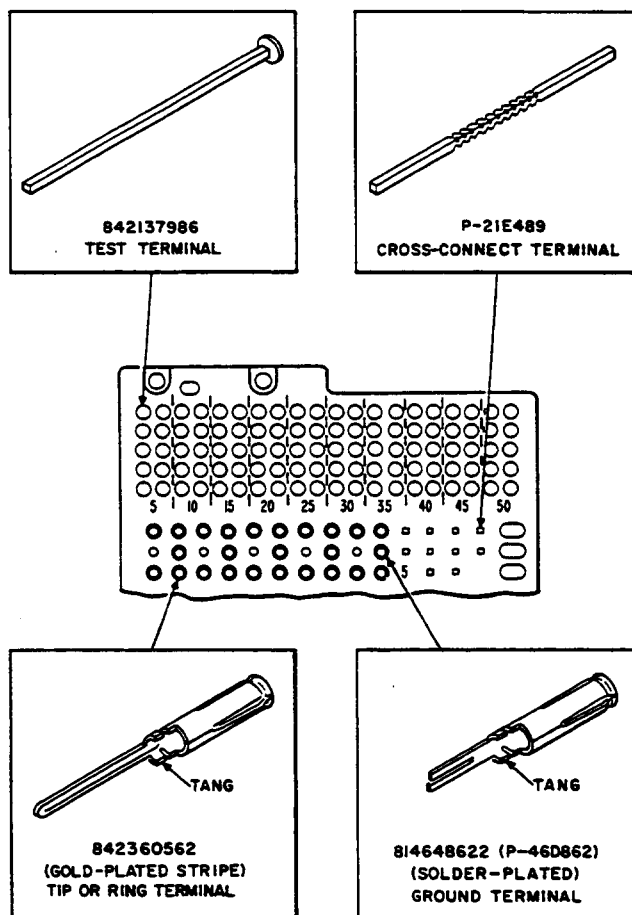

Figure 8—303-Type Connector — Replacement Terminals
4.07 The 840212476 terminal (solder-plated) and the 841634207 terminal (gold-plated) have been rated DA (Discontinued Availability) on all 303-type connectors and replaced with the 842360562 terminal (Figure 8) which has a gold-plated stripe inside the socket position.
- (1) On the wiring side of the connector, tag and remove the leads from the terminal to be replaced.
- (2) Using the B long-nose pliers, close the tangs on the terminal or break the terminal flush with the back side of the connector panel.
- (3) Remove the terminal from the front side of the connector panel.
4.09 To replace the 842360562 tip or ring terminal (Figure 8), proceed as follows:
4.10 To remove the 814648622 (P-46D862) ground terminal (Figure 8), proceed as follows:
4.12 To remove the 842137986 test terminal (Figure 8), proceed as follows:
4.14 To remove the P-21E489 cross-connect terminal (Figure 8), proceed as follows: